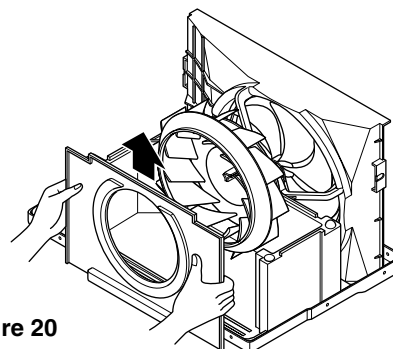

Figure 20
10. Remove the orifice by pushing the snap area of the air guide blower. (See Figure 20)